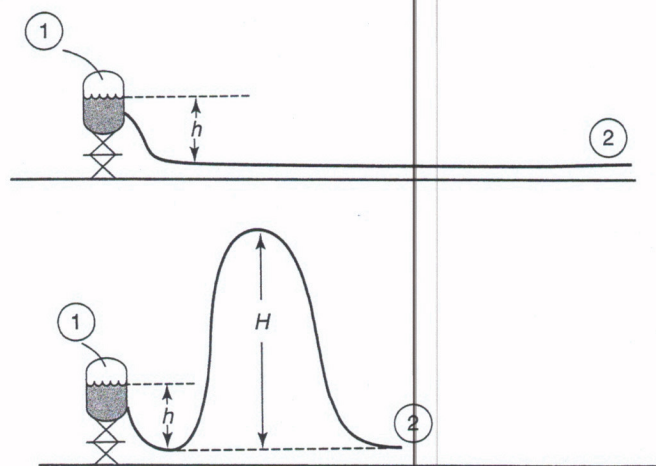

Figure 1.50
24. A water tank is connected to a 100-foot hose (ID = 1.50 cm), as shown in the top of Figure 1.50. The height  $h$  is 1.8 meters. Calculate the average velocity of water in the hose. Do not neglect friction; you may assume turbulent flow.